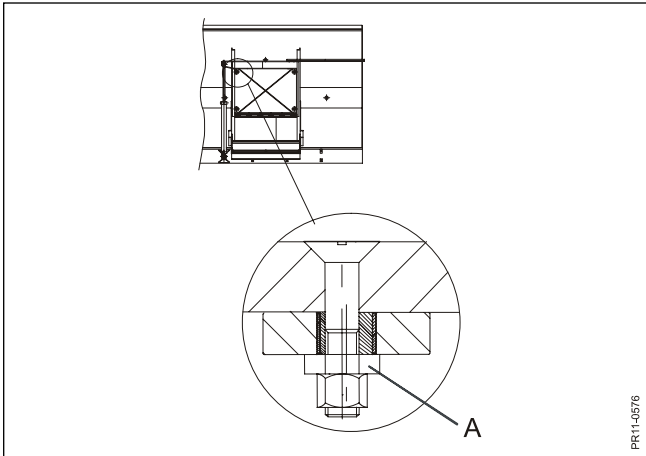

Fig. 9.7
- Fig. 9.7** The rollers at the door should be checked once per 6 months and if necessary adjusted.